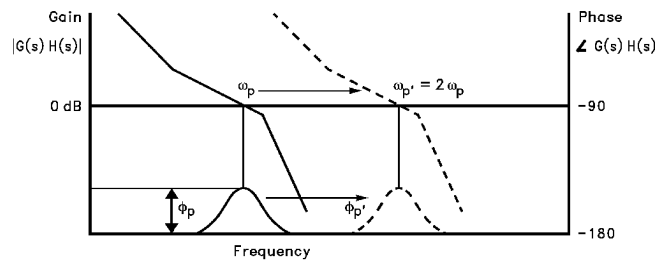

FIGURE 4. Open Loop Response Bode Plot
A plot of the magnitude and phase of $G(s)H(s)$ for a stable loop, is shown in *Figure 4* with a solid trace. The parameter ϕ_p shows the amount of phase margin that exists at the point the gain drops below zero (the cutoff frequency ω_p of the loop). In a critically damped system, the amount of phase margin would be approximately 45 degrees.
If we were now to redefine the cut off frequency, ω_p' , as double the frequency which gave us our original loop bandwidth, ω_p , the loop response time would be approximately halved. Because the filter attenuation at the comparison frequency also diminishes, the spurs would have increased by approximately 6 dB. In the proposed Fastlock scheme, the higher spur levels and wider loop filter conditions would exist only during the initial lock-on phase—just long enough to reap the benefits of locking faster. The objective would be to open up the loop bandwidth but not introduce any additional complications or compromises related to our original design criteria. We would ideally like to momentarily shift the curve of *Figure 4* over to a different cutoff frequency, illustrated by the dotted line, without affecting the relative open loop gain and phase relationships. To maintain the same gain/phase relationship at twice the original cutoff frequency, other terms in the gain and phase *Equations (5), (6)* will have to compensate by the corresponding "1/w" or "1/w²" factor. Examination of *Equations (3), (4), (6)* indicates the damping resistor variable $R2$ could be chosen to compensate the "w" terms for the phase margin. This implies that another resistor of equal value to $R2$ will need to be switched in parallel with $R2$ during the initial lock period. We must also ensure that the magnitude of the open loop gain, $H(s)G(s)$ is equal to zero at $\omega_p' = 2\omega_p$. K_{VCO} , K_ϕ , N , or the net product of these terms can be changed by a factor of 4, to counteract the w^2 term present in the denominator of *Equations (3), (4)*. The K_ϕ term was chosen to complete the transformation because it can readily be switch between 1X and 4X values. This is accomplished by increasing the charge pump output current from 1 mA in the standard mode to 4 mA in Fastlock.